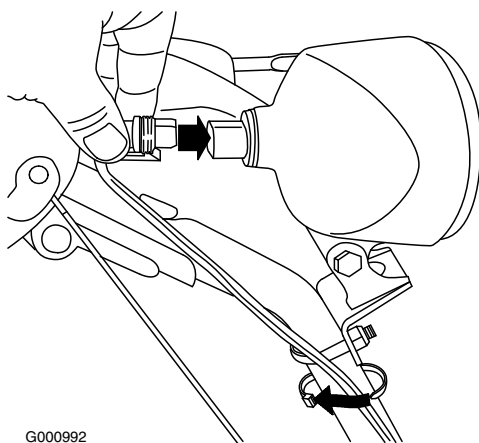

Figure 12
1. Insert the wire connector on the loose end of the wire straight into the back of the headlight until it is securely in place (Figure 12).
Note: Ensure that the plastic clip on the wire connector is on the bottom (Figure 12).
2. Secure a cable tie (from the loose parts bag) around the wire and the handle about an inch (2.5 cm) below the U-bolt (Figure 12).